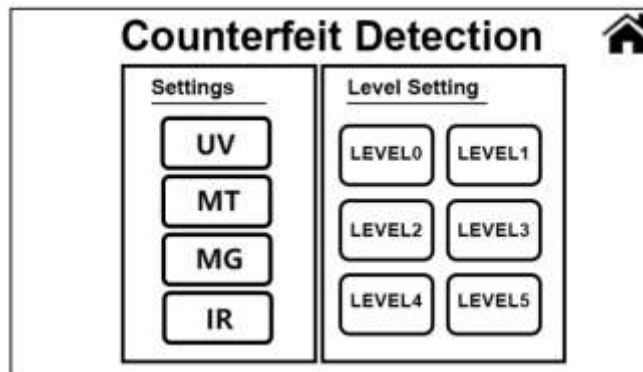

Figure 49
3) Users can modify the corresponding detection level according to specific requirements, as shown in Figure 49.